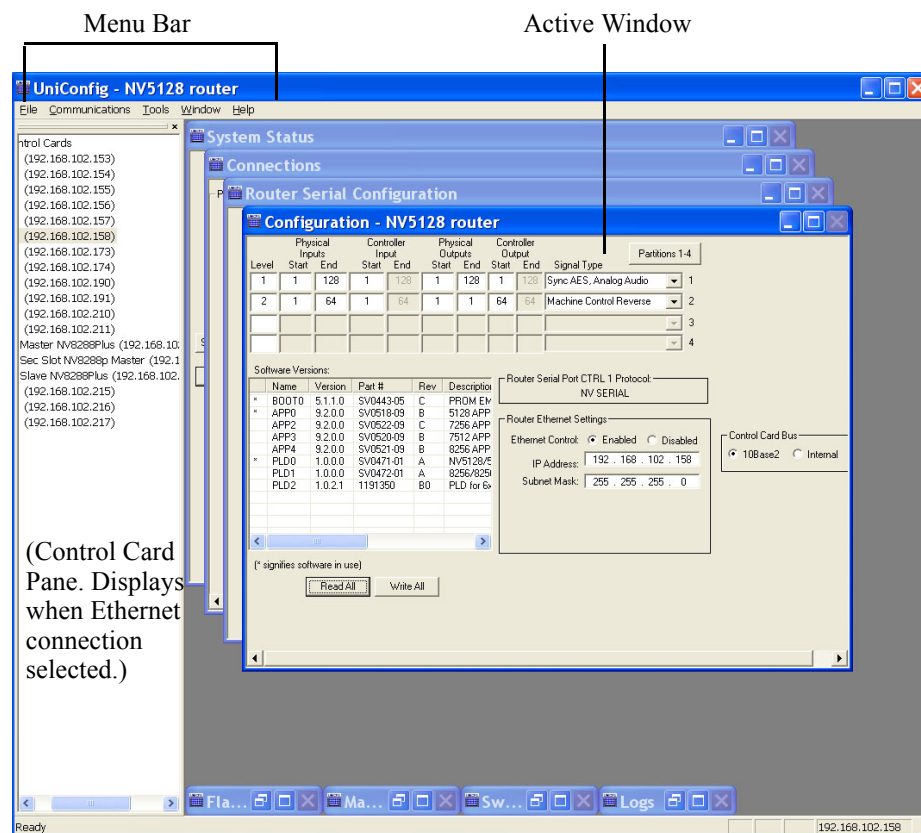

Figure 3-1. Example of UniConfig Screen
Figure 3-1 shows an example of the UniConfig screen:
UniConfig features a menu bar at the top of the window. (See Figure 3-1.) Each menu bar link opens a list of related options. Menu bar links and/or options change depending on the currently active window. A window must be active to activate related menu links and options.
By default, when UniConfig launches all windows are opened and then minimized along the lower edge of the main screen, with the exception of the 'Configuration' window which remains open. (See Figure 3-1 on page 5.)
The 'Control Cards' pane displays in the left-hand section of the UniConfig screen, as shown in Figure 3-1 on page 5. This pane only displays if an Ethernet connection between the router and UniConfig has been established. If you are only using a serial port for communication between the control card and UniConfig, and have not entered Ethernet settings for the control card, it does not appear in the 'Control Cards' pane. For more information, see Adding a Control Card to a Network on page 41.
- 2 From the menu bar, select 'Communications > Ethernet'. The 'Control Card' pane appears as shown in Figure 3-1 on page 5. An Ethernet connection must be established to view the 'Control Card' pane. (See Entering Initial Serial and Ethernet Settings on page 26.)
If you are using an *Ethernet* connection, from the menu bar, select 'Communications > Ethernet'. The 'Control Card' pane appears, as shown in. (See Figure 3-1 on page 5.) On the 'Control Cards' pane, click on the name of a control card to select it.